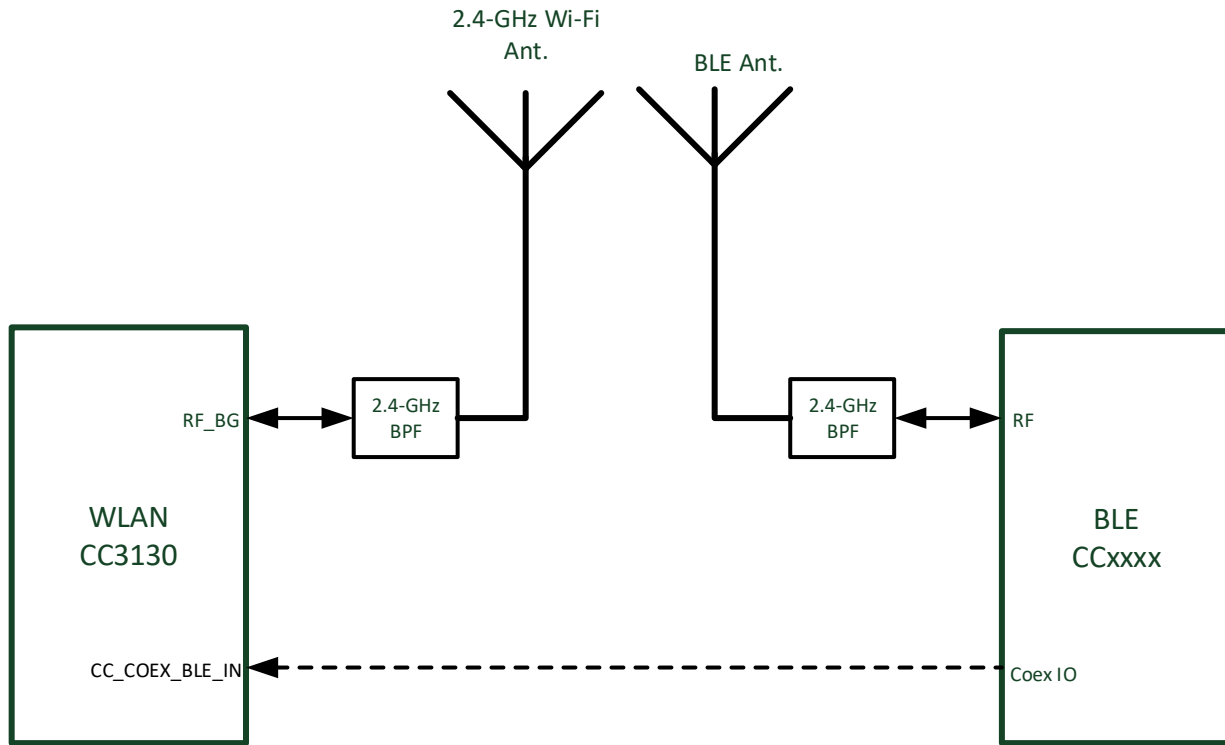

图 9-2. Dual-Antenna Coexistence Mode Block Diagram
- in this mode, (see 图 9-2) the two entities have separate antennas, no RF switch is required, and only a single GPIO (on input from the WLAN perspective).
图 9-2 shows the dual antenna implementation of a complete Bluetooth low energy and WLAN coexistence network. Note in this implementation no Coex switch is required and only a single GPIO from the BLE device to the CC3130 device is required.